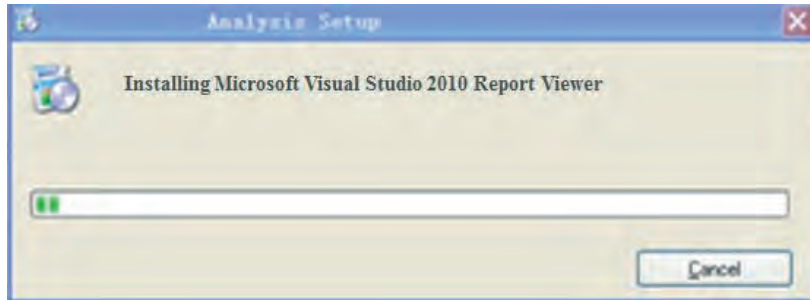

Figure 2-7
3. The installation process takes about 7-10 minutes. See Figure 2-7: